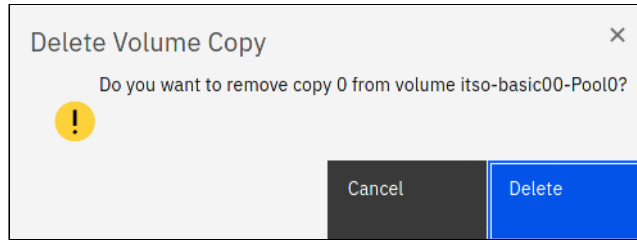

Figure 6-84 Confirming the deletion of a volume copy
- Confirm the removal of the volume copy, as shown in Figure 6-84 on page 375.